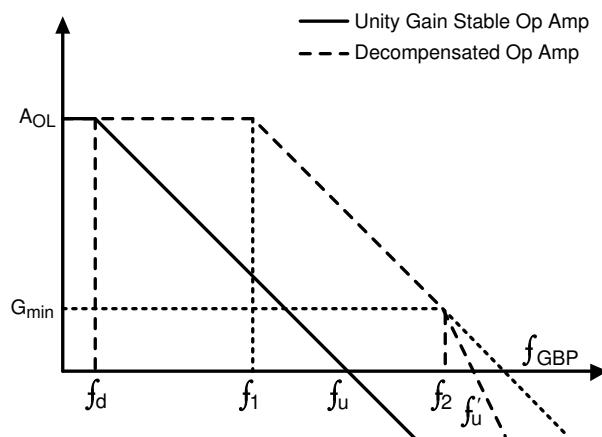

Figure 8-5. Gain vs Frequency Characteristics for a Unity-Gain Stable Op Amp and a Decompensated Op Amp
As shown in Figure 8-5, the dominant pole f_d is moved to the frequency f_1 in the case of a decompensated op amp. The solid A_{OL} plot is the open-loop gain plot of a traditional unity-gain stable op amp. The change in internal compensation in a decompensated amp such as the OPAx607-Q1, increase the bandwidth for the same amount of power. That is, the decompensated op amp has an increased bandwidth to power ratio when compared to a unity-gain stable op amp of equivalent architecture. Besides the advantages in the above mentioned parameters, an increased slew rate and a better distortion (HD2 and HD3) value is achieved because of the higher available loop-gain, compared to its unity-gain counterpart. The most important factor to consider is ensuring that the op amp is in a noise gain (NG) greater than G_{min} . A value of NG lower than G_{min} results in instability, as shown in Figure 8-5, because the $1/\beta$ curve intersects the A_{OL} curve at 40 dB/decade. This method of analyzing stability is called the *rate of closure method*. See the precision lab training videos from TI for a better understanding on device stability and for different techniques of ensuring stability.